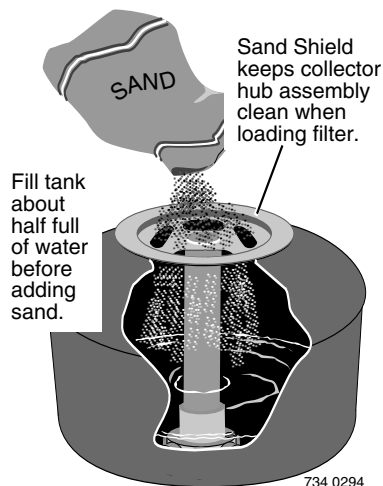

Fig. 5
1. To keep sand out of collector assembly, place plastic sand shield over top of collector tube before pouring sand into filter (See Figure 5).